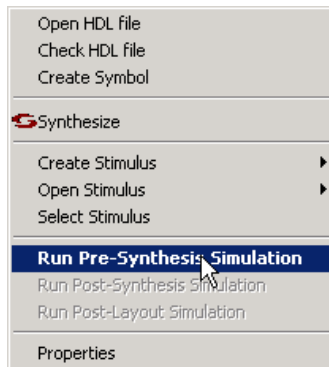

Figure 3-20. Run Pre-Synthesis Simulation
4. Double-click the *ModelSim* simulation icon in the Process window, or right-click counter in the Design Hierarchy tab and select **Run Pre-synthesis Simulation**, as shown in Figure 3-20.